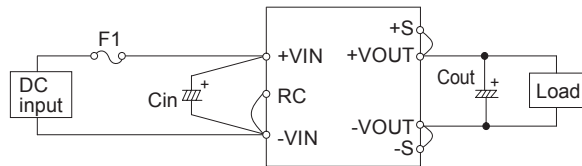
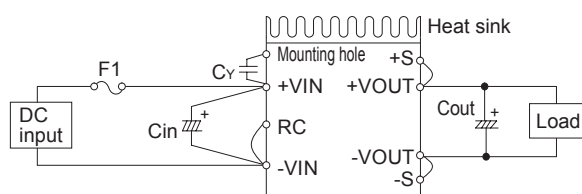

Fig.2.1 Connection for Standard Use (CQHS250)
Fig.2.2 Connection for Standard Use (CQHS300/CQHS350)
■ The power module needs input and output connection as shown in Fig.2.1 or Fig.2.2.
- A decoupling capacitor C_Y must be used to reduce the line noise on the input line and stabilize the power module operation (Fig. 2.2). Note that resonance and inductance from the input line filter may cause the power module to become unstable.
(3) External capacitor on the Input
- An external capacitor C_{in} must be installed between +VIN and -VIN to reduce line noise and stabilize the power module operation (Fig. 2.1 and Fig.2.2).
- Install an external capacitor C_{out} between +VOUT and -VOUT to increase stability of output (Fig. 2.1 and Fig.2.2). Recommended capacitance of C_{out} is shown in Table 3.2 and Table 3.3.